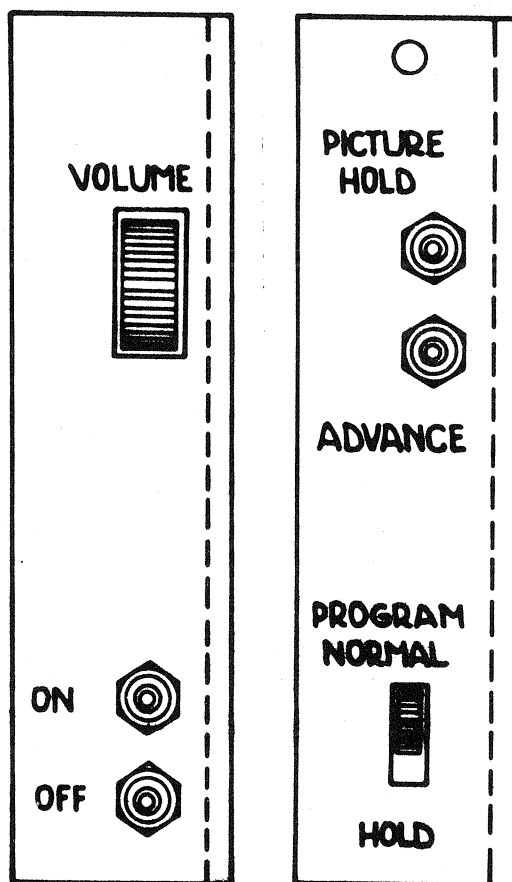

Figure 2-1 Operating Controls
2.2 OPERATING INSTRUCTIONS (Refer to Figure 2-1)